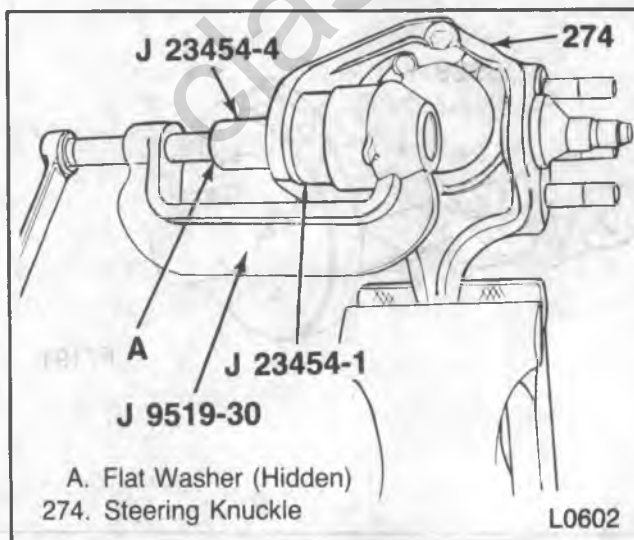
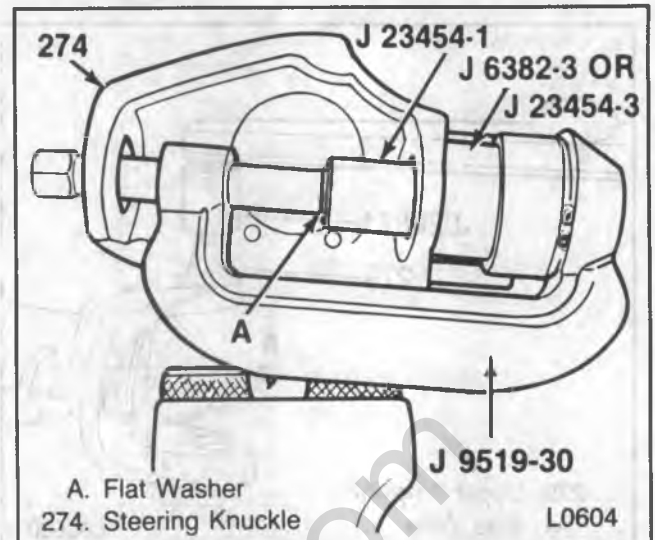

Figure 69 — Removing the Lower Ball Joint
Figure 70 — Removing the Upper Ball Joint
4. Steering knuckle (274) and steering arm (290).
- Remove the steering arm (290) only if removing the left axle yoke ball joints.
- Place the steering knuckle in a vise (figure 69).
5. Snap ring from the lower ball joint (293).
- Use J 9519-30, J 23454-1, J 23454-4 or equivalent (figure 69). Tighten until the ball joint breaks free of the steering knuckle.
6. Lower ball joint (293); must be removed before any service can be done to the upper ball joint (294).
7. Upper ball joint (294).
- Use J 9519-30, J 23454-3 (or J 6382-3) and J 23454-4 (figure 70). Tighten until the ball joint breaks free of the steering knuckle.